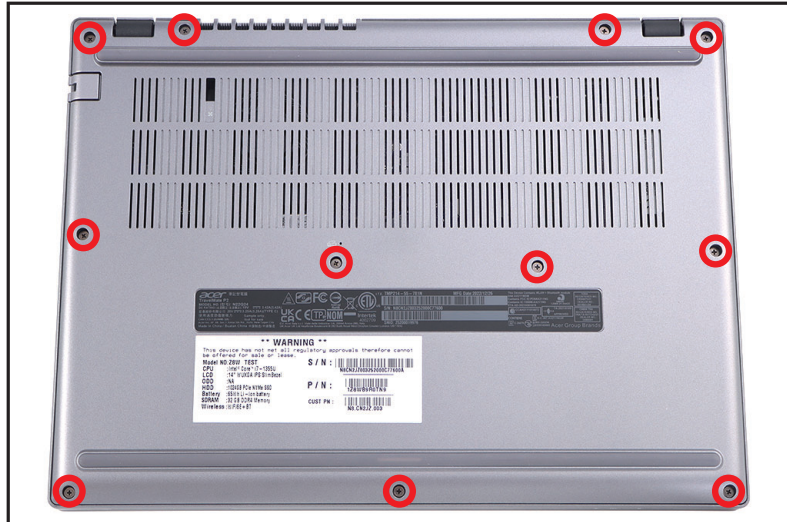

Figure 1-3. Base Cover Removal
1. Remove eleven (11) screws from the base cover (Figure 1-3).